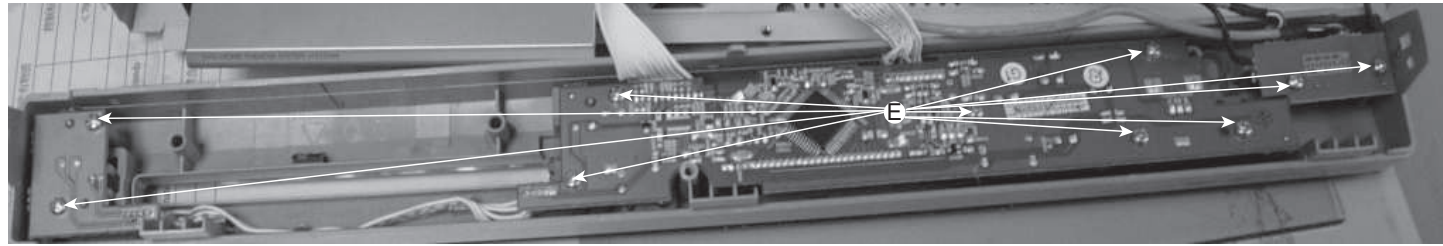

Figure 6
1) Loosen 10 screws "E" at the back pancele as shown in figure 6